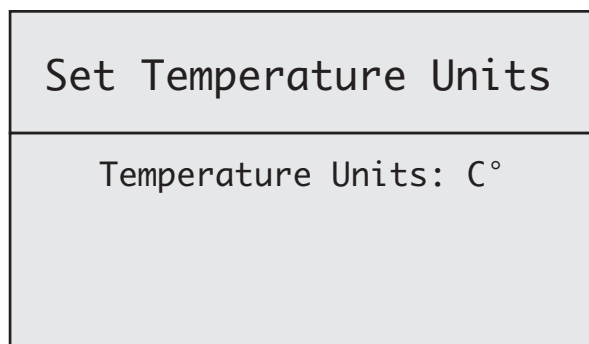

Figure 25
2. Using the **SCROLL DOWN** key, move down to option 3: "**SET TEMPERATURE UNITS**". Press **ENTER** again to move into the "**SET TEMPERATURE UNITS**" screen. **SEE FIGURE 25.**